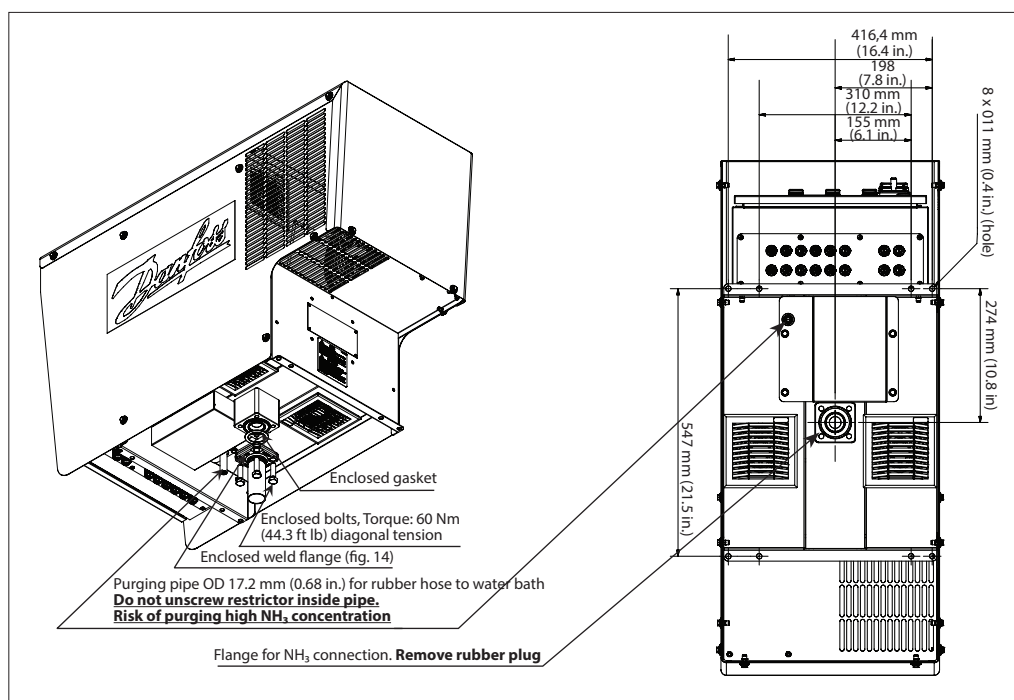
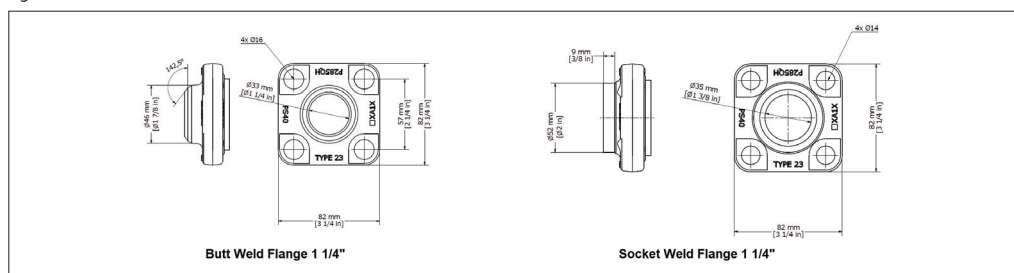

Fig. 13 Ammonia connection
Fig. 14 Enclosed weld flanges, included in the shipment
1. Prepare the ammonia pipework with the weld flange according to Fig. 13 and Fig. 14. The main/drain piping should never be smaller than inner diameter (1 ¼ in).